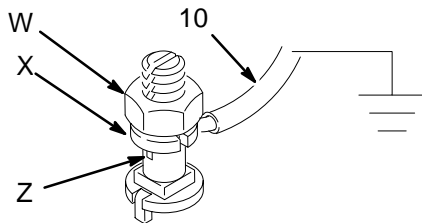

Fig. 2
2. *Surge tank*: use the ground wire and clamp (10, supplied). Loosen the grounding lug locknut (W) and washer (X). See Fig. 2. Insert one end of the ground wire (10) into the slot in lug (Z) and tighten the locknut securely. Connect the ground clamp to a true earth ground.